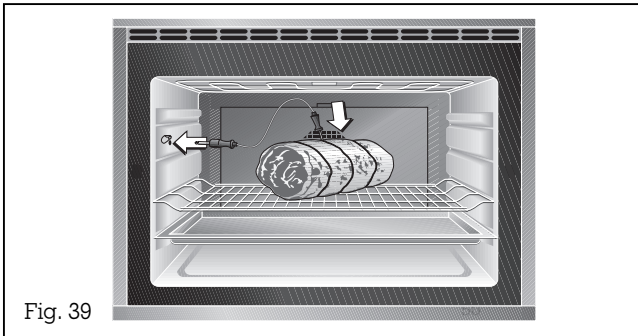

Fig. 39
- Insert the meat probe in the front left socket in the oven. (Fig. 39)